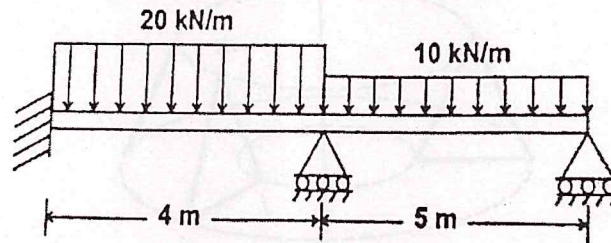

Figure 16(a)
16. (a) For the beam shown in Figure 16(a), compute slope at the hinged support points, Take  $E = 200 \text{ GPa}$ ,  $I = 4 \times 10^{-6} \text{ m}^4$ . Use two beam elements.